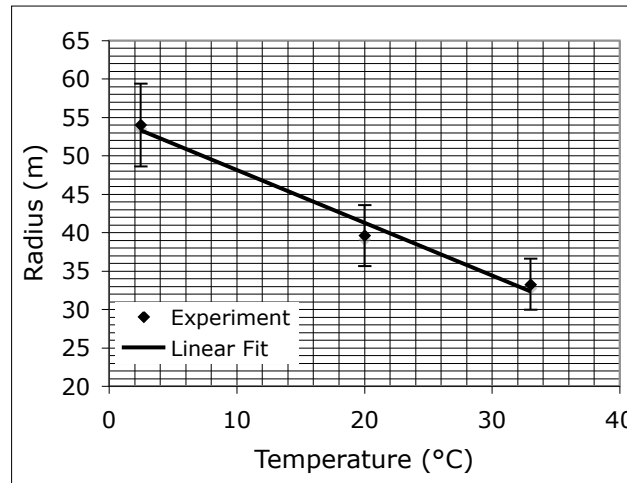

Figure 4.2: Example of an acceptable plot: Maximum expansion radius vs. temperature for a single bubble sonoluminescence experiment at 23.1 kHz.
3. Plot your sample means for each of the straw lengths you measured on a linear graph of buckling weight (y -axis) versus straw length (x -axis). This plot should be either drawn by hand to appropriate scale (graph paper is available on the course website) or using computer software (such as Excel or Matlab). Be sure to include appropriate axis labels, a legend, a figure number, and a descriptive caption. Furthermore, be sure to minimize the data range for the weights and lengths. In other words, do not draw a vertical axis spanning 200 N if all of the averages for your weight fall within a 20 N range. The smaller the range, the more accurate your fits for the graph will be. Fig. 4.2 shows an example of an acceptable plot, albeit from a completely different application.
4. Draw vertical error bars symmetrically about each data point. The error bar should extend above and below the data point by an amount equal to twice the sample standard deviation for that data point. (Recall that you calculated this above as σ_j .) This range corresponds to 95% of randomly distributed data falling within the limits defined by the error bars (known as 95% confidence intervals). You can see such error bars on the example plot in Fig. 4.2.